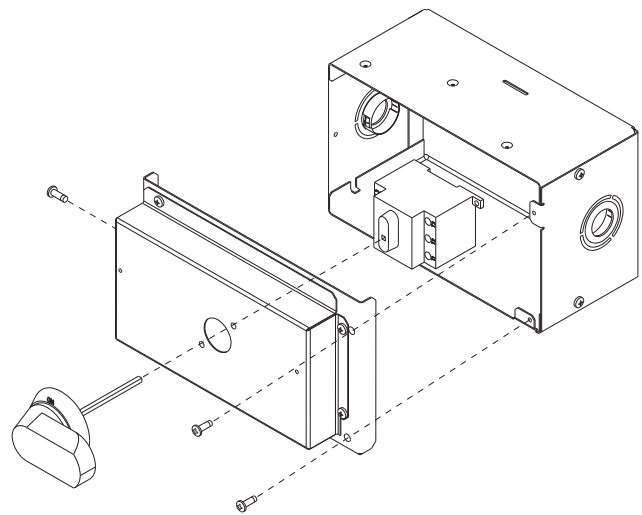

Fig. 35 — NFD Handle and Shaft Assembly
2. Remove (3) cap head screws that secure the NFD enclosure front cover — (2) on the face of the cover and (1) on the left side cover. See Fig. 35.
5. Insert the shaft with the cross pin on the top of the shaft in the horizontal position. See Fig. 35.
10. Secure the handle to the painted cover with (2) screws and lock washers supplied.
11. Engaging the shaft into the handle socket, re-install (3) cap head screws on the NFD enclosure.